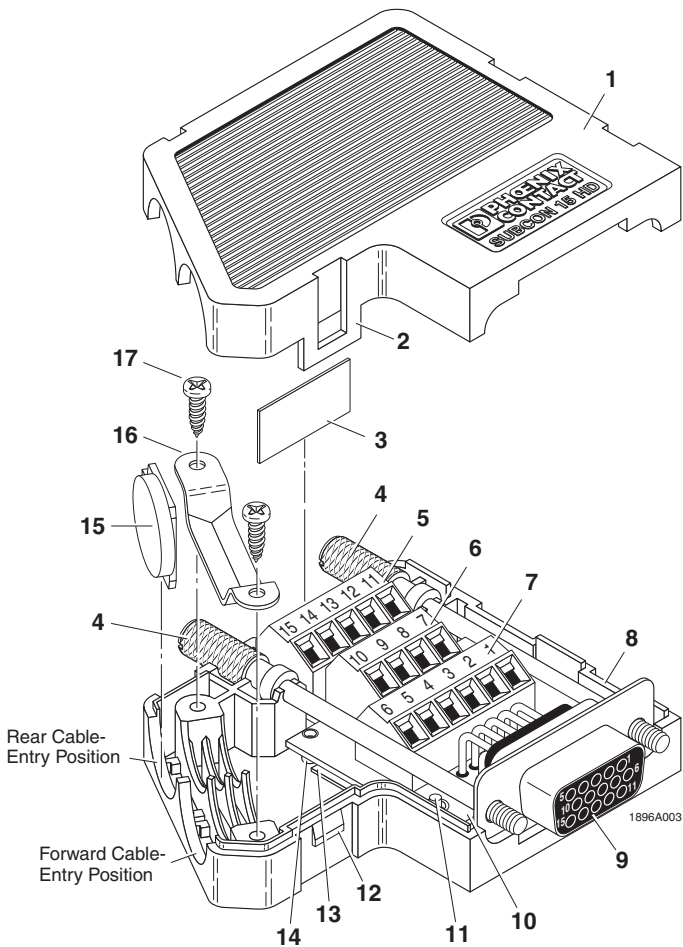

Figure 3. Exploded View of the SUBCON 15 High-density D-Subminiature Connector System
Components that make up a typical SUBCON 15 high-density connector system are identified in Figure 3. Table 1 provides a description of the items shown in Figure 3. Table 2 at the back of these instructions provides technical information for the SUBCON 15 high-density connectors and Table 3 provides ordering information for SUBCON 15 high-density connectors.
**Table 1. Key to Figure 3**